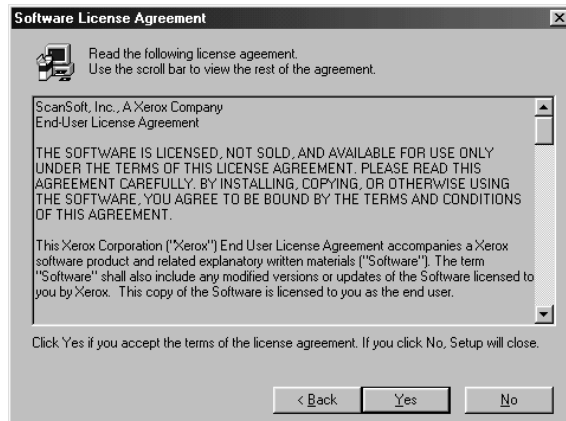

Figure 10: Installing TextBridge Classic 2.0
- Click on 'Next'. A screen as in Figure 10 is displayed.